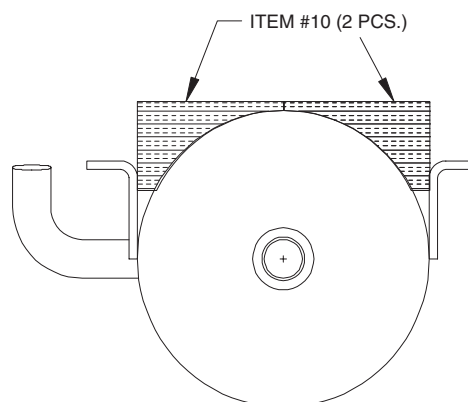

Fig. 10 — Economizer Wedges
3. Apply the two economizer wedge pieces (Item 10) to the top brackets of the economizer, as shown in Fig. 10.